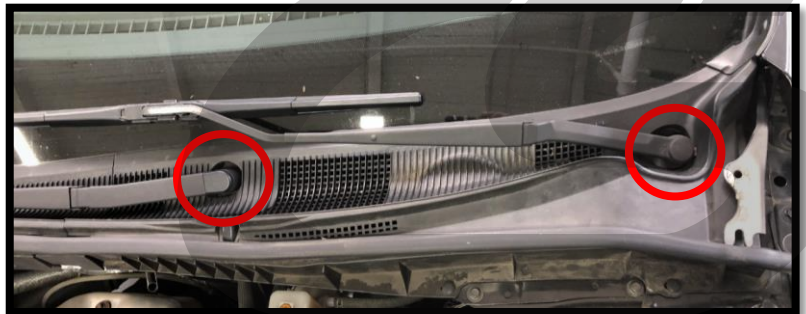

Figure 1b
- e) Remove the wiper arm bolt covers by prying them off using a flathead screwdriver. Shown circled in red in Figure 1b.
- f) Unbolt the wiper arms from the vehicle using a 12mm socket and ratchet. Bolt locations circled in red in Figure 1b.